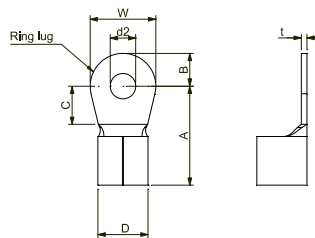

Figure 1.
- ☑ It needs following additional terminal when wiring. The additional terminal dimension should comply with the following figure 1.